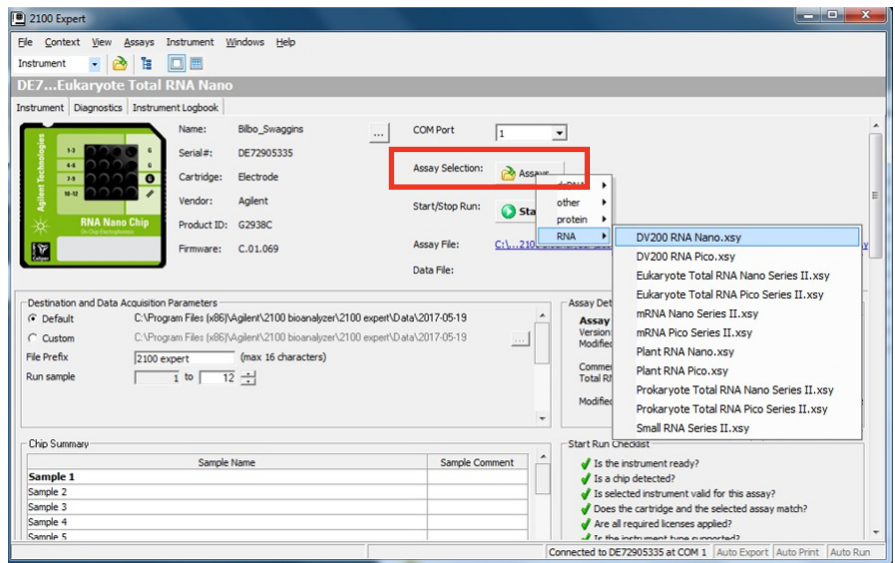

Figure 4. Selecting the DV200 RNA assay to run an RNA chip.
2. When the chip is prepared and placed in the 2100 Bioanalyzer instrument, go to the instrument context, click **Assay Selection**, and choose the corresponding DV200 RNA assay. The assay will be part of the general assay selection when it has been stored in the RNA assay folder (Figure 4).